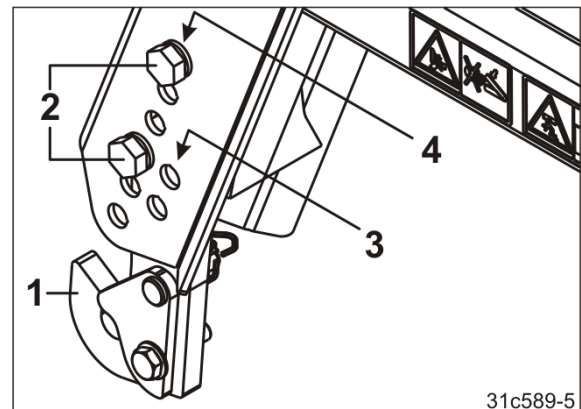

Fig. 97
1. Fasten the catch hooks (Fig. 97/1) to the lifting frame using two screws for each one (Fig. 97/2).
- Holes (Fig. 97/3) for small roller diameter
- Holes (Fig. 97/4) for large roller diameter.